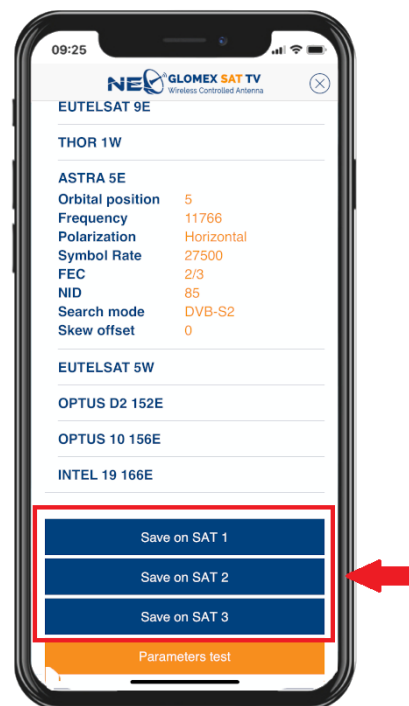

Fig. 44
- 1) set the satellite selected in one of the three positions of the control unit (**Fig. 44**).